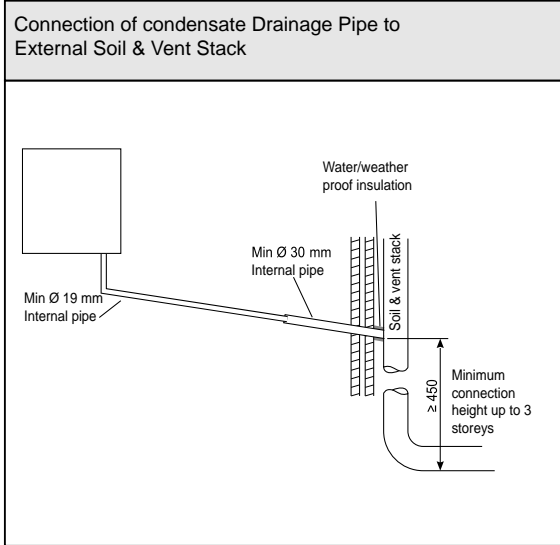

Figure 2.26
- For connections to an external soil/vent stack see Fig 2.26. Insulation measures as described should be used.